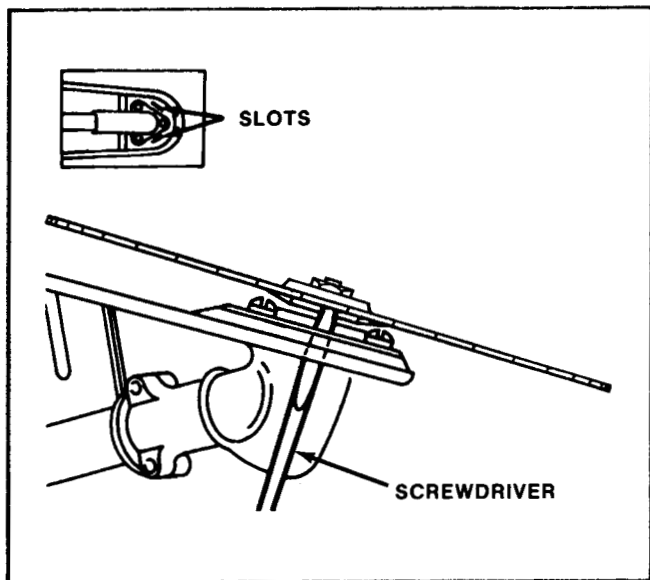

Figure 159
2. Insert a flat bladed screwdriver into the slot in the top of the shield to prevent the blade from rotating during removal. See Figure 159.
3. Insert a flat bladed screwdriver into the slot in the top of the shield to prevent the blade from turning while tightening the nut. See Figure 159.